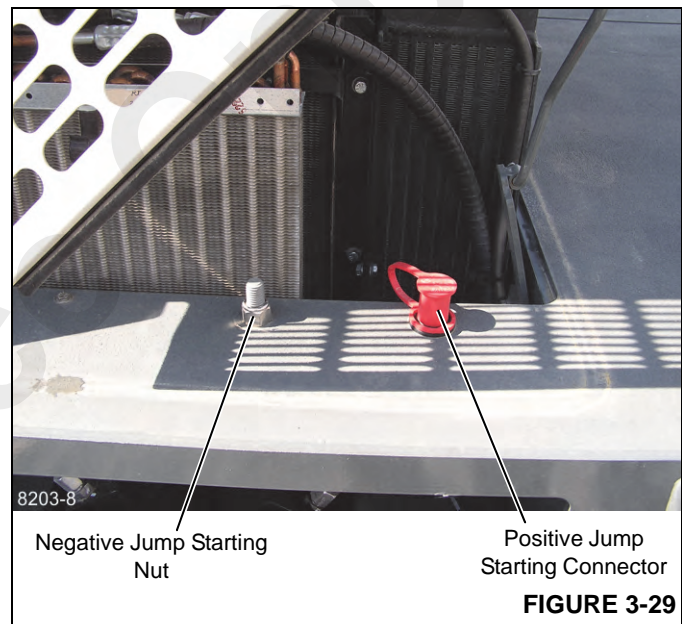

FIGURE 3-29
7. Remove the plastic cap (Figure 3-29) from the positive jump start connector, located in front of the radiator.
11. Connect the other end of the negative cable to the negative jump starting nut (Figure 3-29).